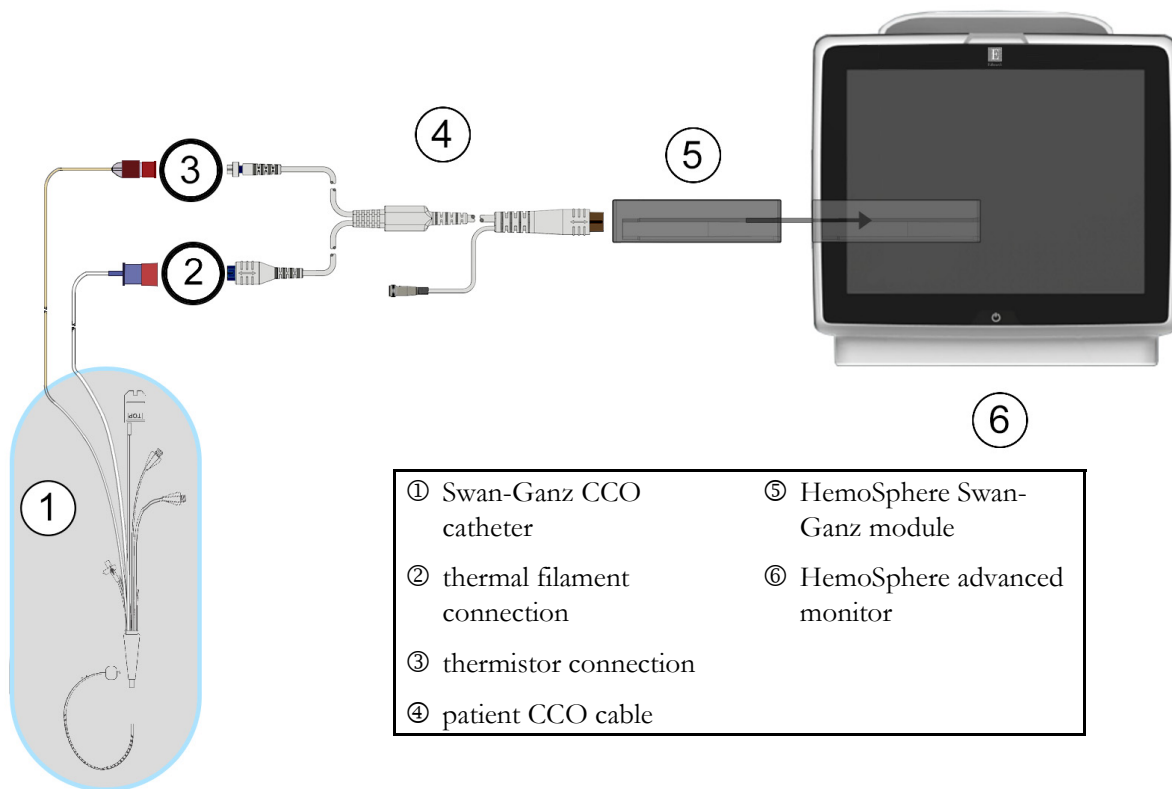

Figure 9-3 CO connection overview
- 2 Attach the catheter end of the patient cable to the thermistor and thermal filament connectors on the Swan-Ganz CCO catheter. These connections are emphasized as numbers ② and ③ in figure 9-3 on page 121.